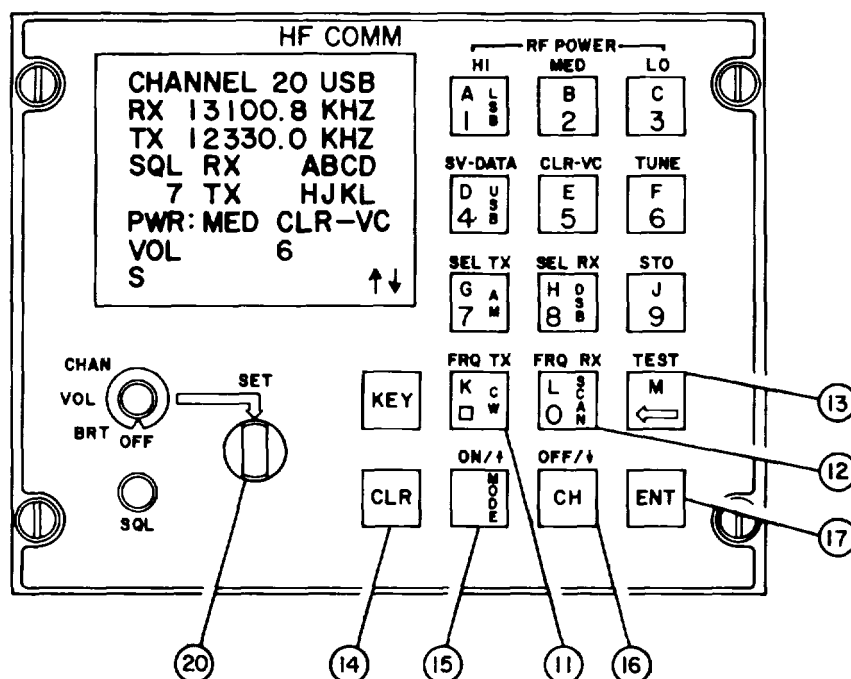

Figure 2-21. C-11245/U Receive/Transmit Channel Selection, Controls
- (3) **Using numbered keys.** Press CH pushbutton (16), then use numbered pushbuttons to enter channel number. After CH pushbutton is pressed, the display is blank except for the word CHANNEL in inverse video, the channel number, and the arrows. Press ENT pushbutton (17) to display the selected channel information.
**b. Receive and Transmit Frequency Select.** Refer to figure 2-21.